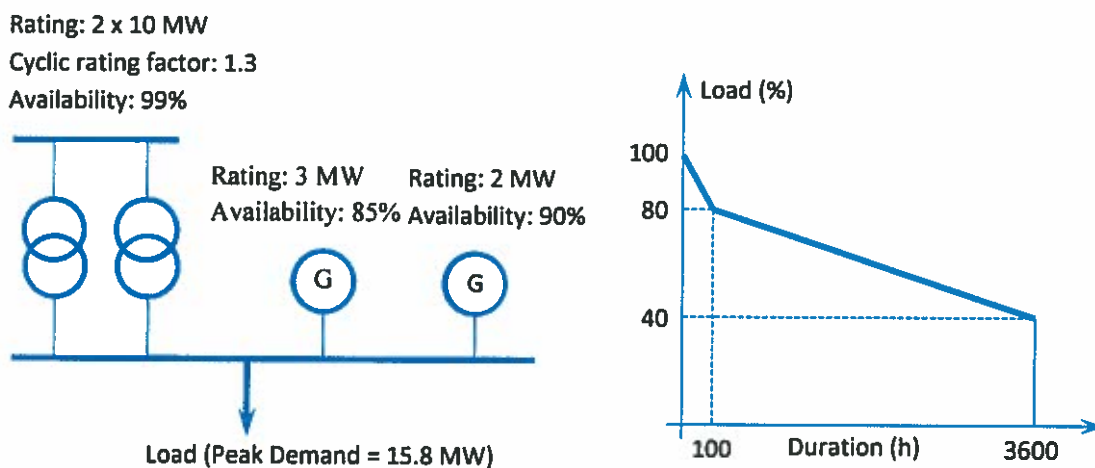

Figure 3
- c) Consider the network in which two embedded CHP generators of capacities of 2 MW and 3 MW are connected to a 33/11kV substation as shown on Figure 3. For the winter demand profile of the load connected to this network shown below, quantify the contribution to network security that would be effectively provided by the two generators, if the availability of individual generation unit is 85% (3 MW unit) and 90% (2 MW unit). [10]